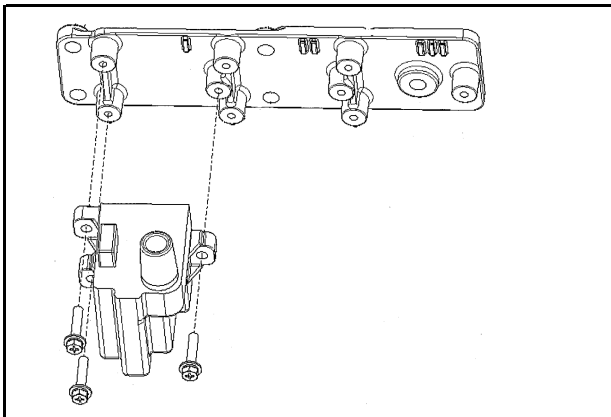

Fig. 6 - Installing IGNITION COIL
1. Use 3 bolts install the ignition coil. Fig.6